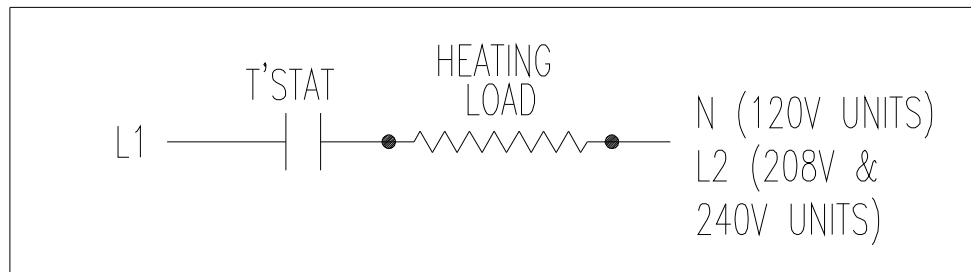

FIGURE 7
2.4.5 All heaters come factory prewired complete with adjustable thermostat ready for direct connection to power supply leads (see Figure 7).